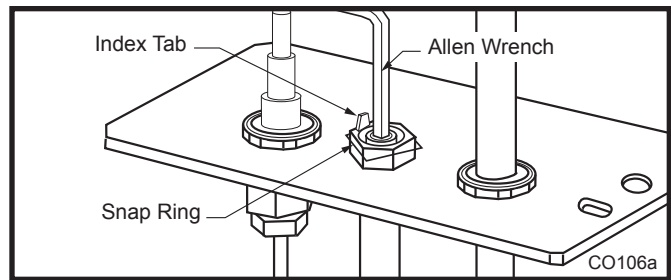

Fig. 68 Remove pilot orifice.
- Remove pilot orifice with Allen wrench. (Fig. 68)